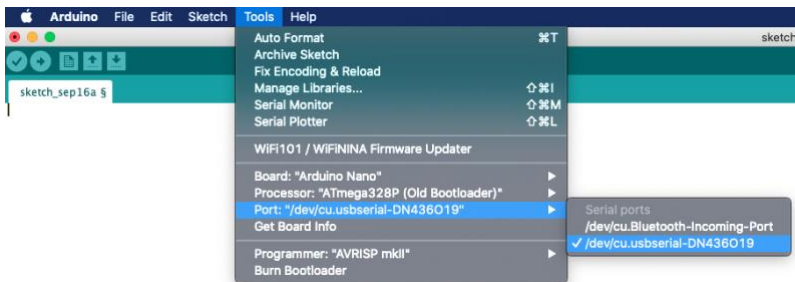

Figure 15. Step 3: Select the ObservAir communications port in Arduino.
3. Open the Arduino software and select the ObservAir's serial port from the "Tools" menu. For Mac OSX, the port is called **/dev/cu.usbserial-DN43xxxx**, as shown in Figure 15 below. Windows does not use port naming, and so the port must be found by process of elimination.